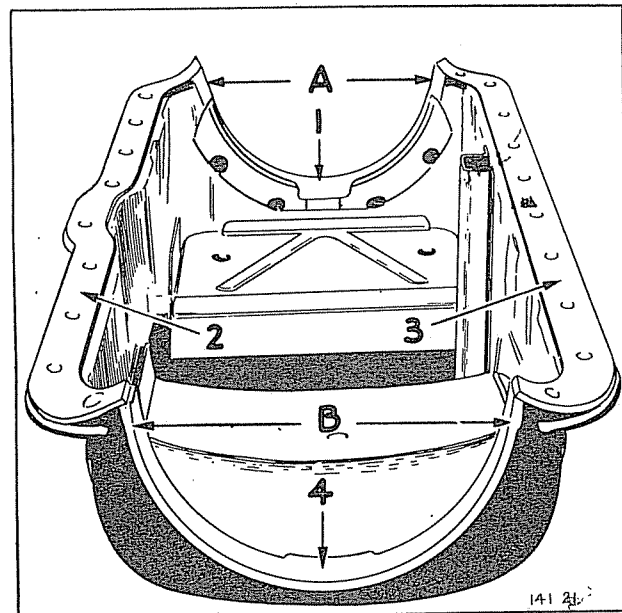

Fig. 19—Oil Pan Gaskets
- (1) Drain the engine oil, instal drain plug and tighten securely.
- (2) Remove clutch housing pan to prevent damaging the oil pan gaskets on the clutch housing pan dust seal.
- (3) Remove the oil level indicator and oil pan.
- (4) Before installing the oil pan, clean it thoroughly and instal new gaskets. The end gaskets A and B, Figure 19, should protrude $\frac{1}{8}$ " to $\frac{1}{4}$ " above the oil pan. These ends must not be cut off. They should be allowed to protrude while the pan is being installed. The pan will compress them into place when the pan screws are tightened.